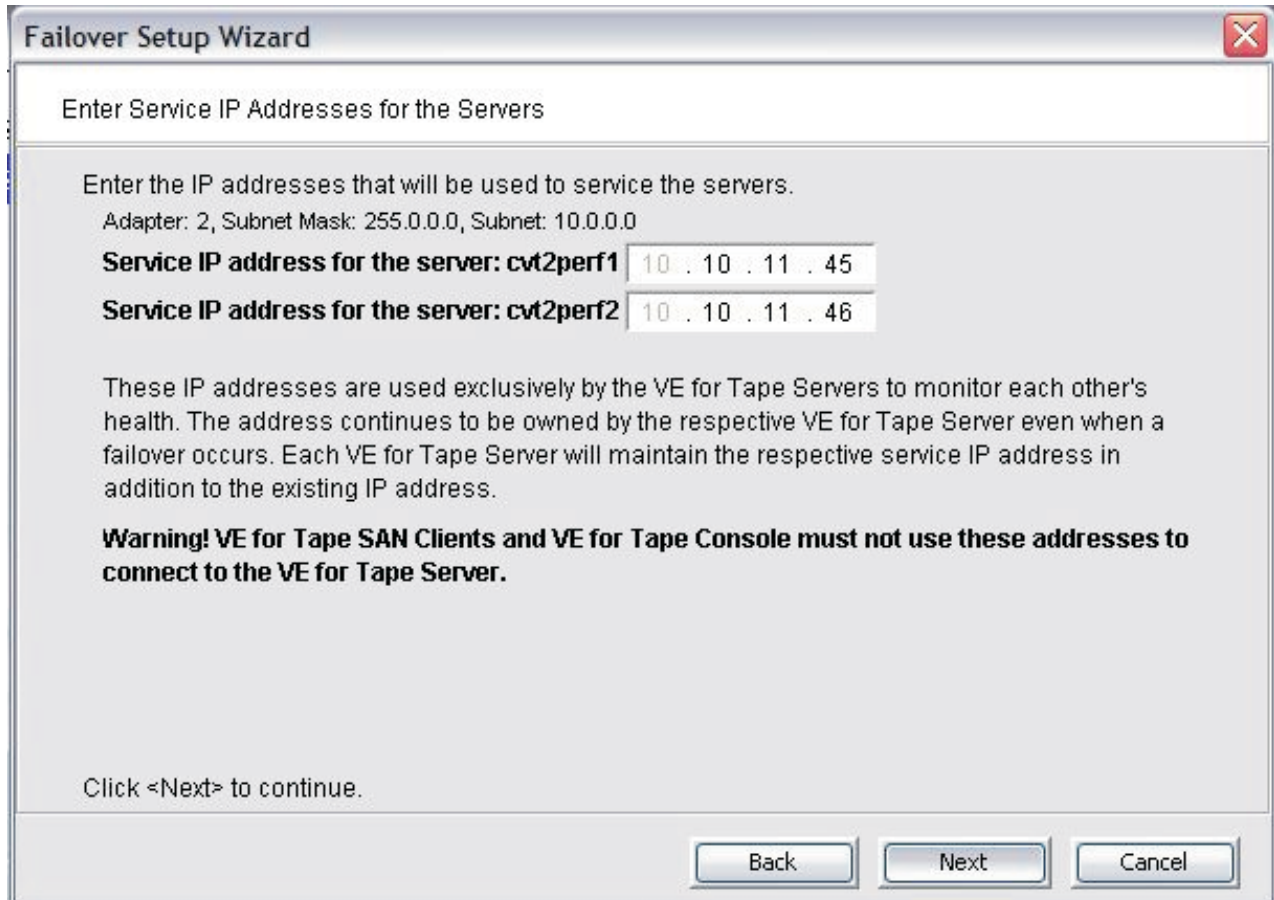

Figure 74. Entering or confirming service IP addresses for adapter 2
19. ___ In the Enter Service IP addresses for the Servers (Adapter 2) window (Figure 74):